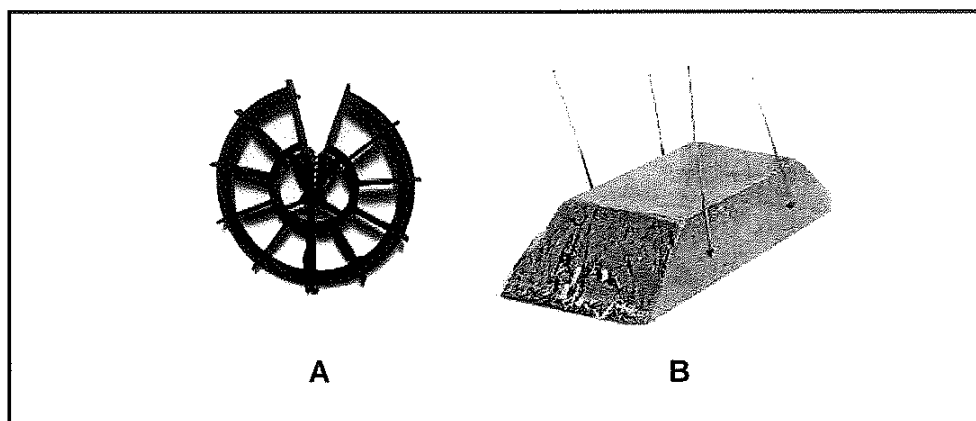

FIGURE 6.2
- 6.2 FIGURE 6.2 below shows components used in reinforcement.